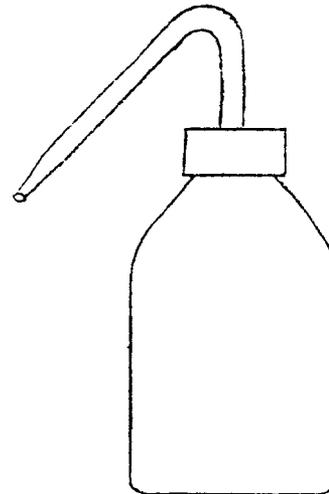

Figure 5. The cutter assembly.
8. Remove the two knurled Allen screws from the front of the cutter face plate with the wrench provided. Do this carefully as there is a tension spring behind the cutter (Figure 5).